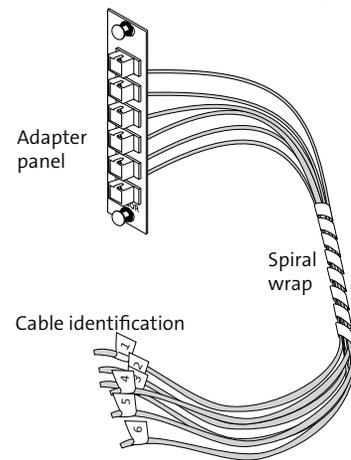

Figure 17
Step 1: If splicing cable to pigtails inside the cabinet, make sure that the cable is strain-relieved (and grounded, if necessary) and the connector panels are properly installed. When the pigtail is single fiber in spiral wrap, label both the fiber to be spliced and the pigtails with identification tags (Figure 17).